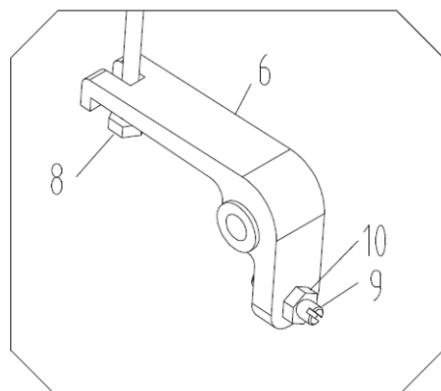

Fig. 4
- **Adjusting the lowering valve:** The screw 9 is used to adjust the truck position. If the truck body drops immediately after it is lifted, turn the screw 9 a little counter-clockwise. Then try the truck again until truck body could lift normally. If the truck body couldn't drop after it is lifted, turn the screw 9 a little clockwise. Then try to operate the truck again until the truck body could drop normally. The external hexagon nut 10 at screw 9 plays the locking function in the truck, so you should undo the external hexagon nut 10 before adjustment. Screw down the nut 10 after you finish the adjustment. (Fig. 4)